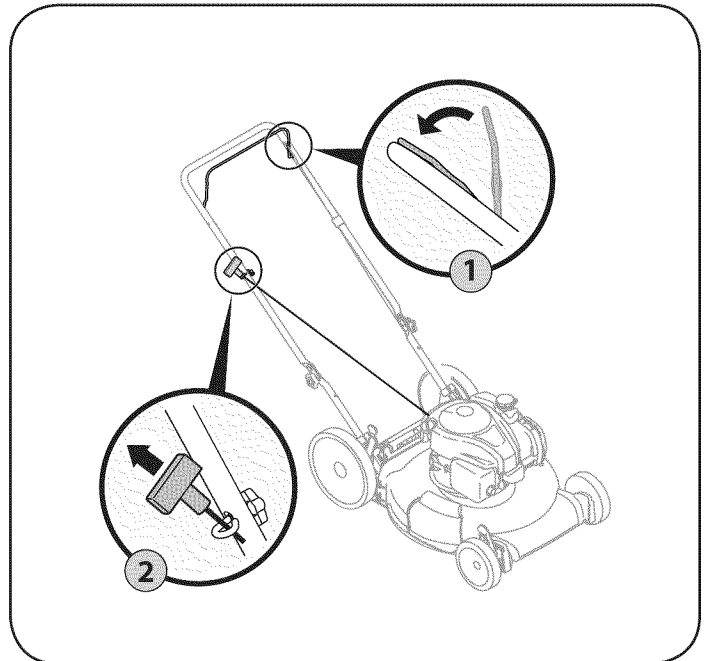

Figure 12
2. Holding these two handles together firmly, grasp recoil starter handle and pull rope slowly until resistance is felt, then pull with a rapid, continuous, full arm stroke. See Figure 12. Keeping a firm grip on the starter cord handle, let the rope rewind slowly. Repeat until engine cranks. Let the rope rewind each time slowly.